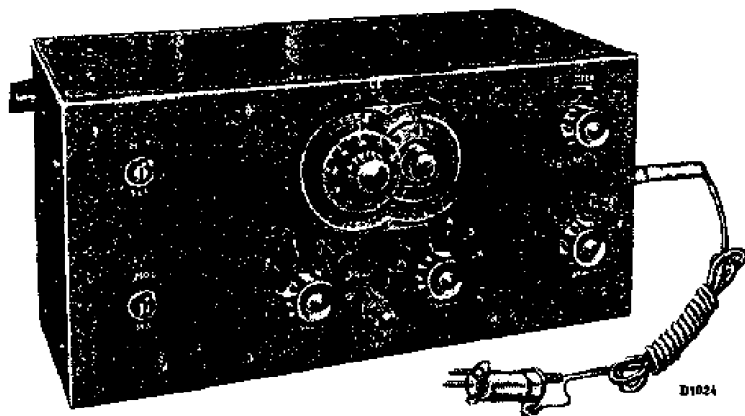

Fig. 1.
1. A service oscillator having wave bands covering the receiver, similar to Philips' Service Signal Generator GM. 2880 (see fig. 1). Prices and particulars upon application from the Service Dept.